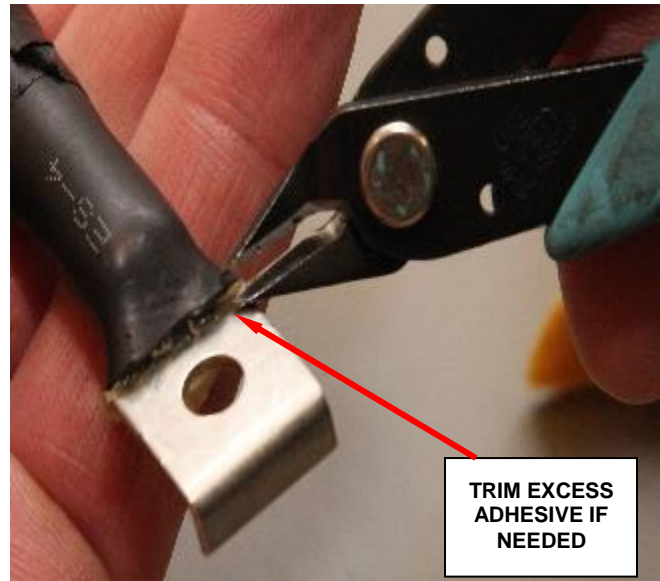

Figure 7 – Trim Excess Adhesive
13. If needed, trim excess heat shrink adhesive as close as possible to the heat shrink tubing (Figure 7).